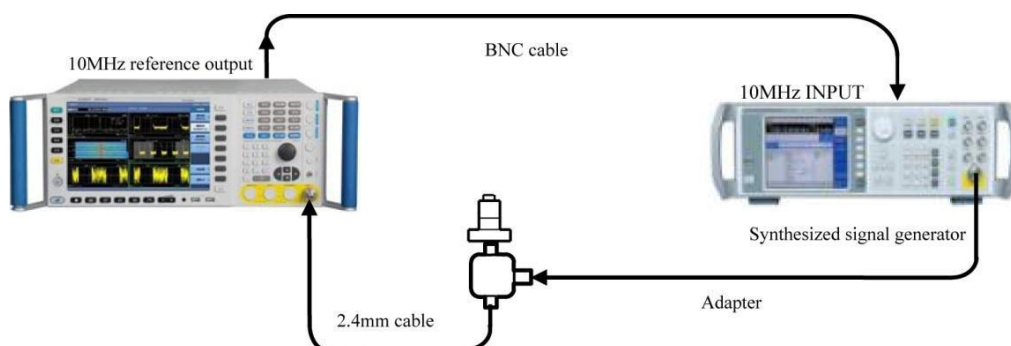

Fig. 8.9 Schematic diagram of frequency response test (3Hz - 50MHz)
- 34) Connect the test instrument as shown in Fig. 8.9 and then connect two output interfaces of the power divider to 50 Ω load and the signal/spectrum analyzer respectively.